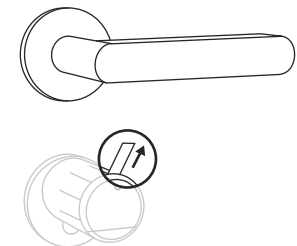

Fig. 7
- 7 If you have not already done so, remove the battery protection strip from the battery compartment on the inside knob (Fig. 7).